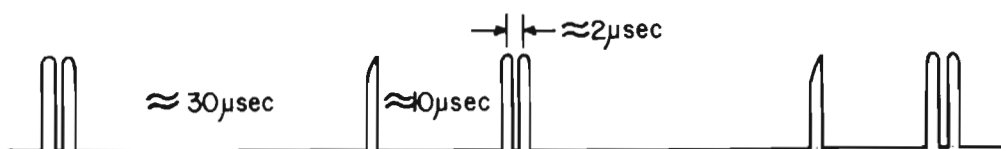

Figure 7-8. MEMWRT PULSE PATTERN
To test to see if a paging IC is operating correctly at all possible addresses, Jumper U44-8 to ground. Load the 16KDT diagnostic test. Proceed to the Exerciser and enter F000 00 <CR>. Push all the switches to the up (ON) position. 1) Put channel 2 of the scope on U45-12, (delayed MEMWRT) with the Exerciser running. Set the scope at 5 usec per division. Figure 7-8 shows the required pulse pattern.